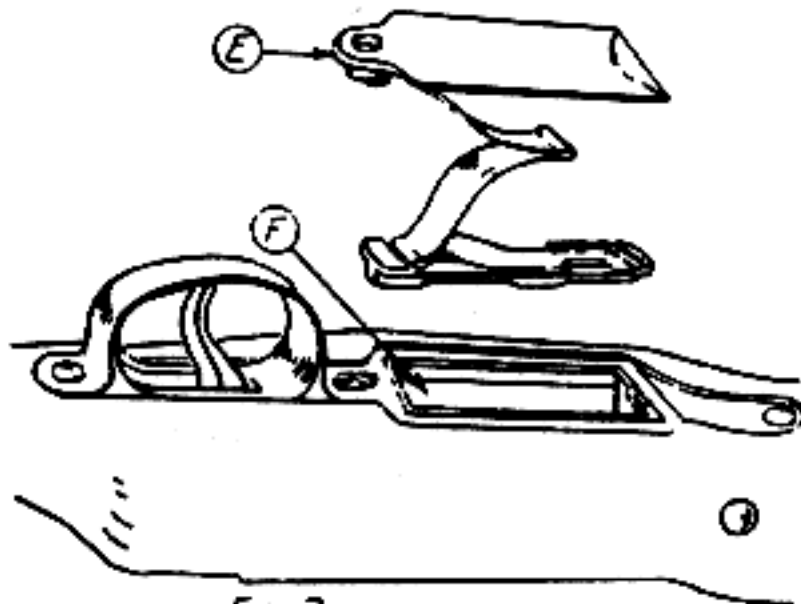

FIG. 2
LOWER THE FLOOR PLATE ASSEMBLY (E) INTO THE HOUSING (F) AS SHOWN IN FIGURE 2